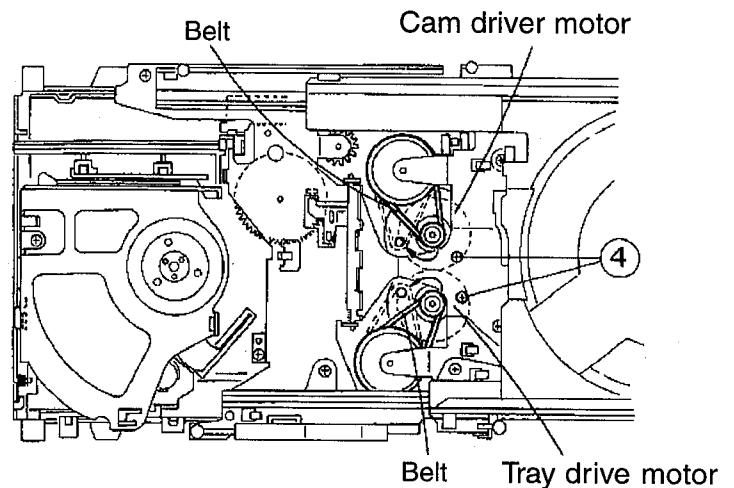

Fig.9
- 3.The two belts which have been dismantled from the tray & cam drive motor should be hanged again to the motor pulley as shown in Fig.9.
- 4.Remove the two screws ④ retaining the tray & cam drive motor (See Fig.9).